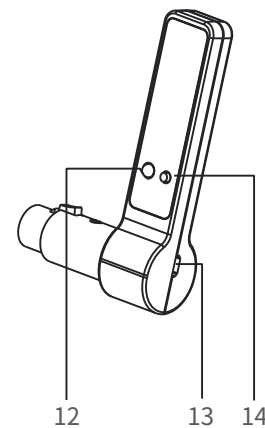

Fig4 LA-WR8 Accessory : LA-WR8-R
- The accessory LA-WR8-R (Figure 4) is powered by DC 5V through Micro USB socket (Figure 4-13).